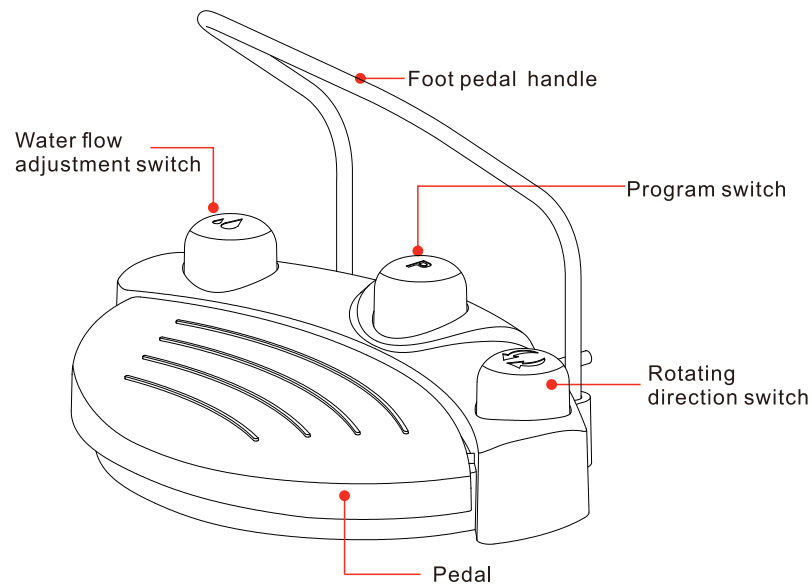

Fig. 1
3.1 The foot pedal structure description (Fig. 1)